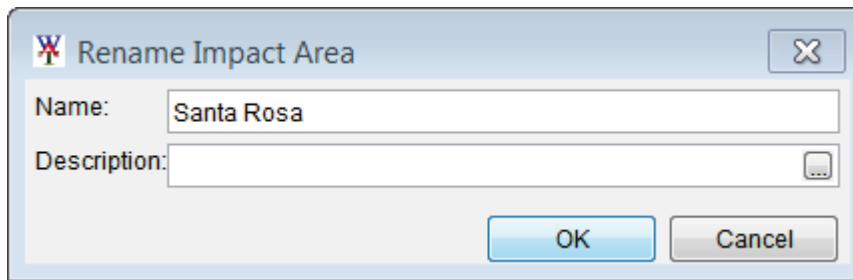

Figure I.8 Rename Impact Area Dialog Box
2. The **Rename Impact Area** dialog box will open (Figure I.8). Enter the new **Name** (required) and **Description** (optional, but recommended impact areas).